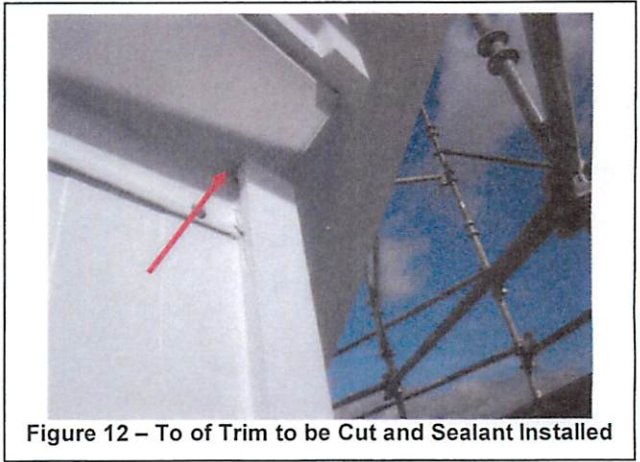

Figure 12 – To of Trim to be Cut and Sealant Installed
- 17 - All existing sealant at tops of Vertical Wood Trim will be cut down 3/8" at approx. 15° angle and a new tooled sealant joint installed. Approved/Compatible Sealant Primer (By Sealant Manufacturer) for the Existing Pre-Finished Metal Flashing Surfaces should be considered to ensure good bonding. **Figure 12**